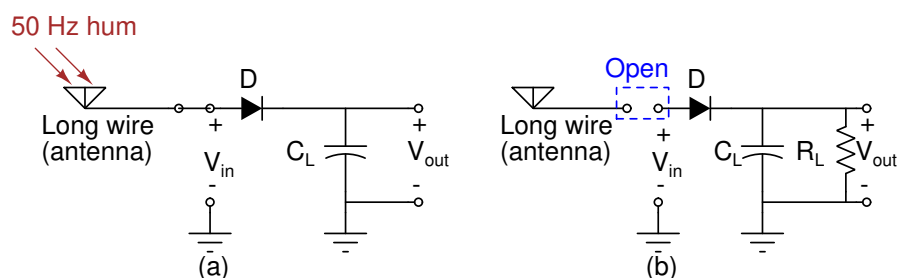

Figure 6
Can you think of building a simple energy harvester, which can convert the 50 Hz noise to generate DC voltage? Consider the scheme shown in Fig. 6(a), where a long wire is used as an antenna to capture the 50 Hz radiations present in the environment. Diode will allow
- i. As shown in Fig. 6(a), connect diode and $C_L = 100 \mu\text{F}$ first.
- v. As shown in Fig. 6(a), now connect the big wire (antenna) to the input of the circuit
- vi. Keep observing V_{out} (it should rise (**why?**)), when it reaches to 400 mV, disconnect the long wire (antenna) from the input as shown in Fig. 6(b)